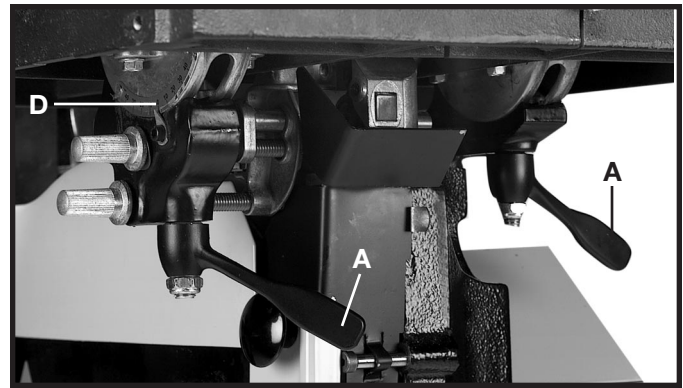
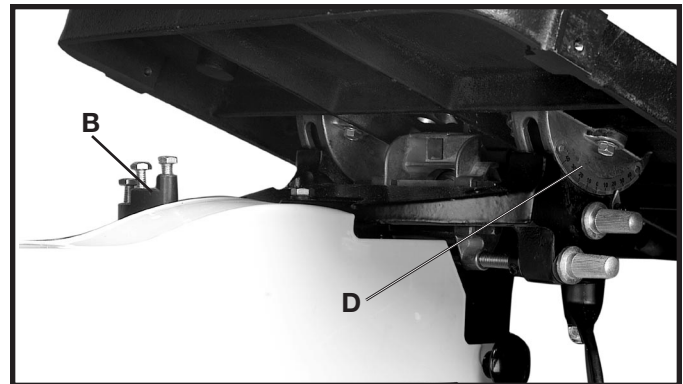

Fig. 43
Fig. 44
1. The table on the band saw can be tilted 45 degrees to the right and 8 degrees to the left. To tilt the table to the right, loosen the two clamp handles (A) Fig. 43, tilt the table to the desired angle as shown on the scale (D) Figs. 43 and 44, and tighten two locking handles (A) Fig. 43.
2. To tilt the table to the left, loosen the two locking handles (A) Fig. 43, and tilt the table to the right until the table stops (B) Fig. 44 can be accessed. Rotate the table stop (B) Fig. 44, and tilt the table to the left. Tighten the two locking handles (A) Fig. 43.
1. Loosen the table clamp handles (A) Fig. 43, and tilt the table to the right.
4. Clamp table handles (A) Fig. 43.
1. Loosen the two clamp handles (A) Fig. 43.